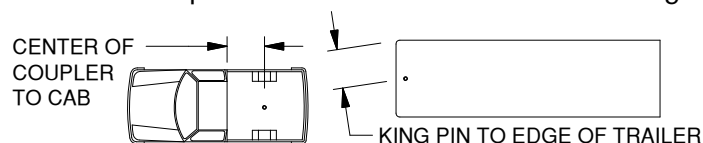

Figure A3: Truck and Trailer
2. **Evaluate clearance.** Determine if there is clearance between each truck and trailer combination before towing. Measure from the center of the coupler to the cab of the truck and from the king pin or pivot point of the trailer to the furthest forward corner of the trailer, see Figure A3. Compare these measurements to ensure proper clearance when towing. Also, inspect the clearance between the bed sides and the underside of the front of the trailer to ensure there is room for the pitch and roll of the trailer while towing.